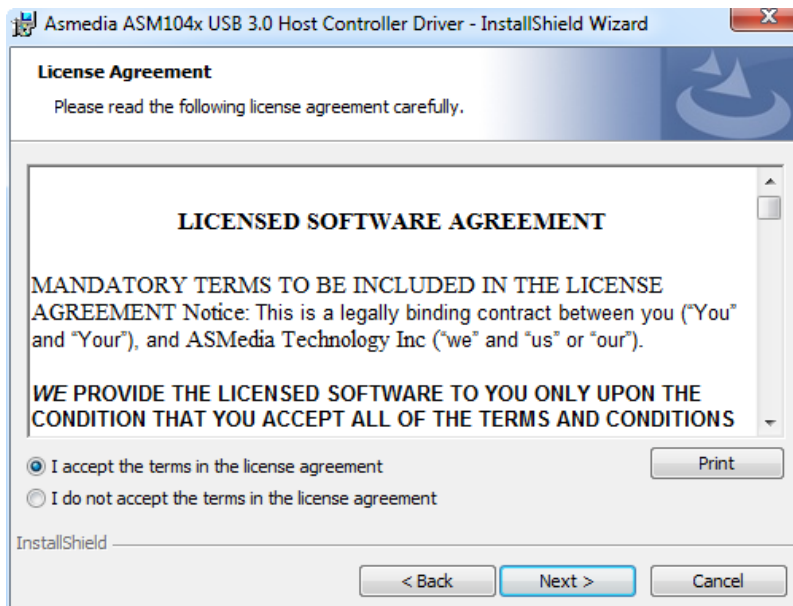

Figure 8-28: USB 3.0 Driver License Agreement
Step 6: The **License Agreement** shown in **Figure 8-28** appears.